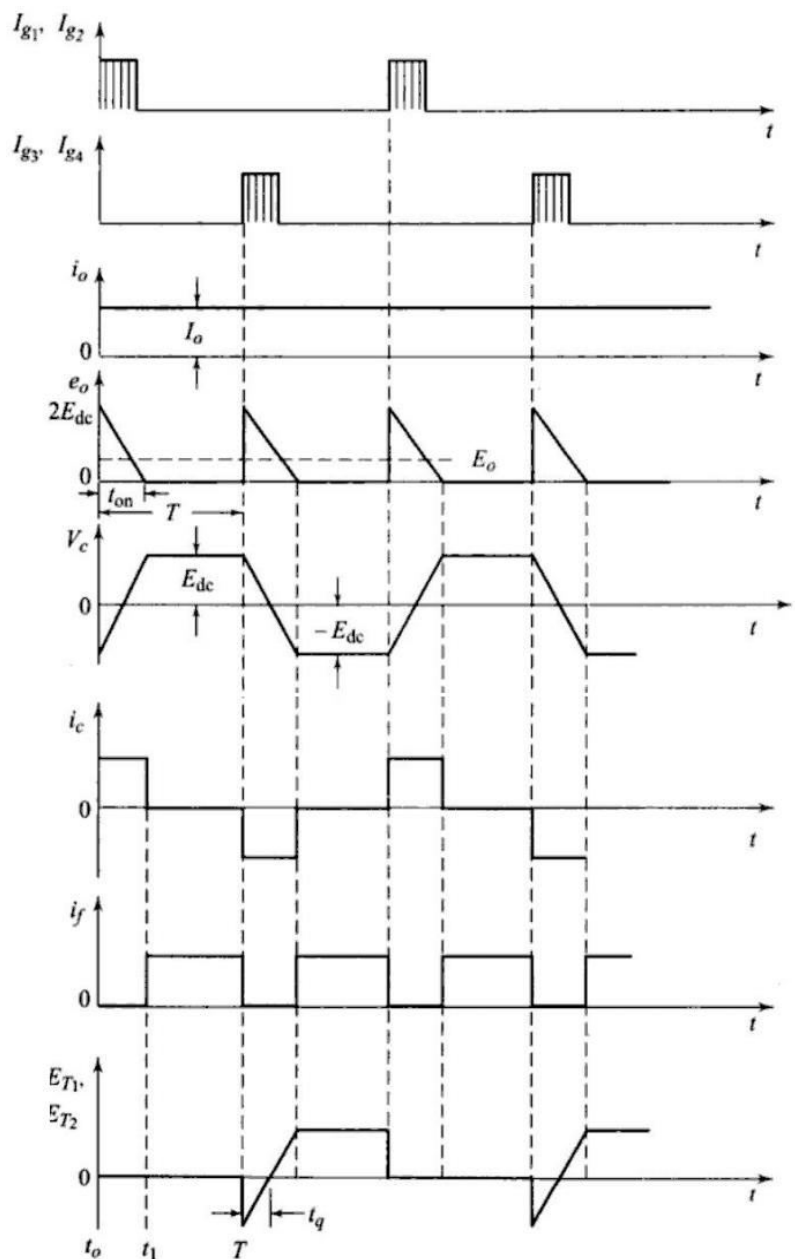

Fig.2 Voltage and current waveforms of load-commutated chopper
- As shown in Fig.2 at $t=t_0$ both thyristors T_1 and T_2 are triggered. Therefore, load current flows through the path $E_{dc} - T_1, C, T_2$ and the load.